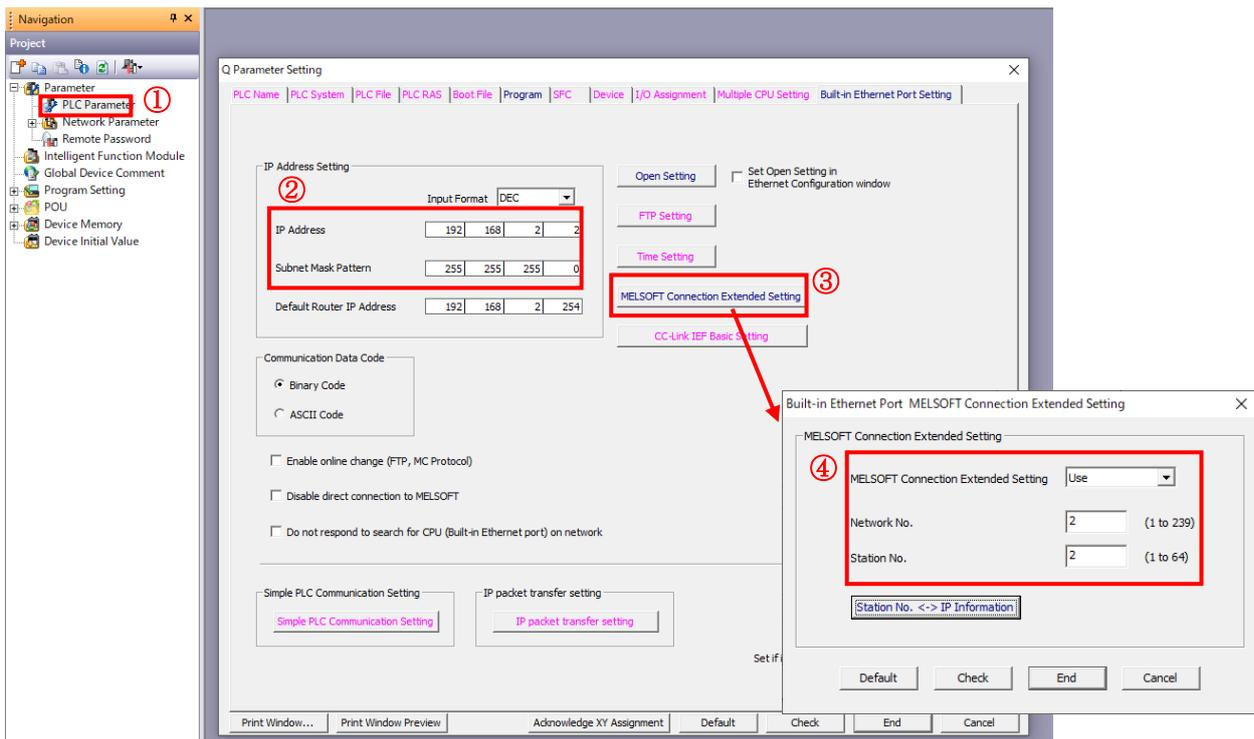

Figure 4-5 Built-in Ethernet module parameter setting (Child PLCs)
① to ④ in Figure 4-5 show the setting steps of the built-in Ethernet module.
- ① After connecting the PLC, click "PLC Parameter" on the navigation tree menu.
- ② Enter the IP address and subnet mask on the Q Parameter Setting screen.
- ③ Open MELSOFT Connection Extended Setting.
- ④ Select "MELSOFT Connection Extended Setting: Use" and enter the network number and station number.